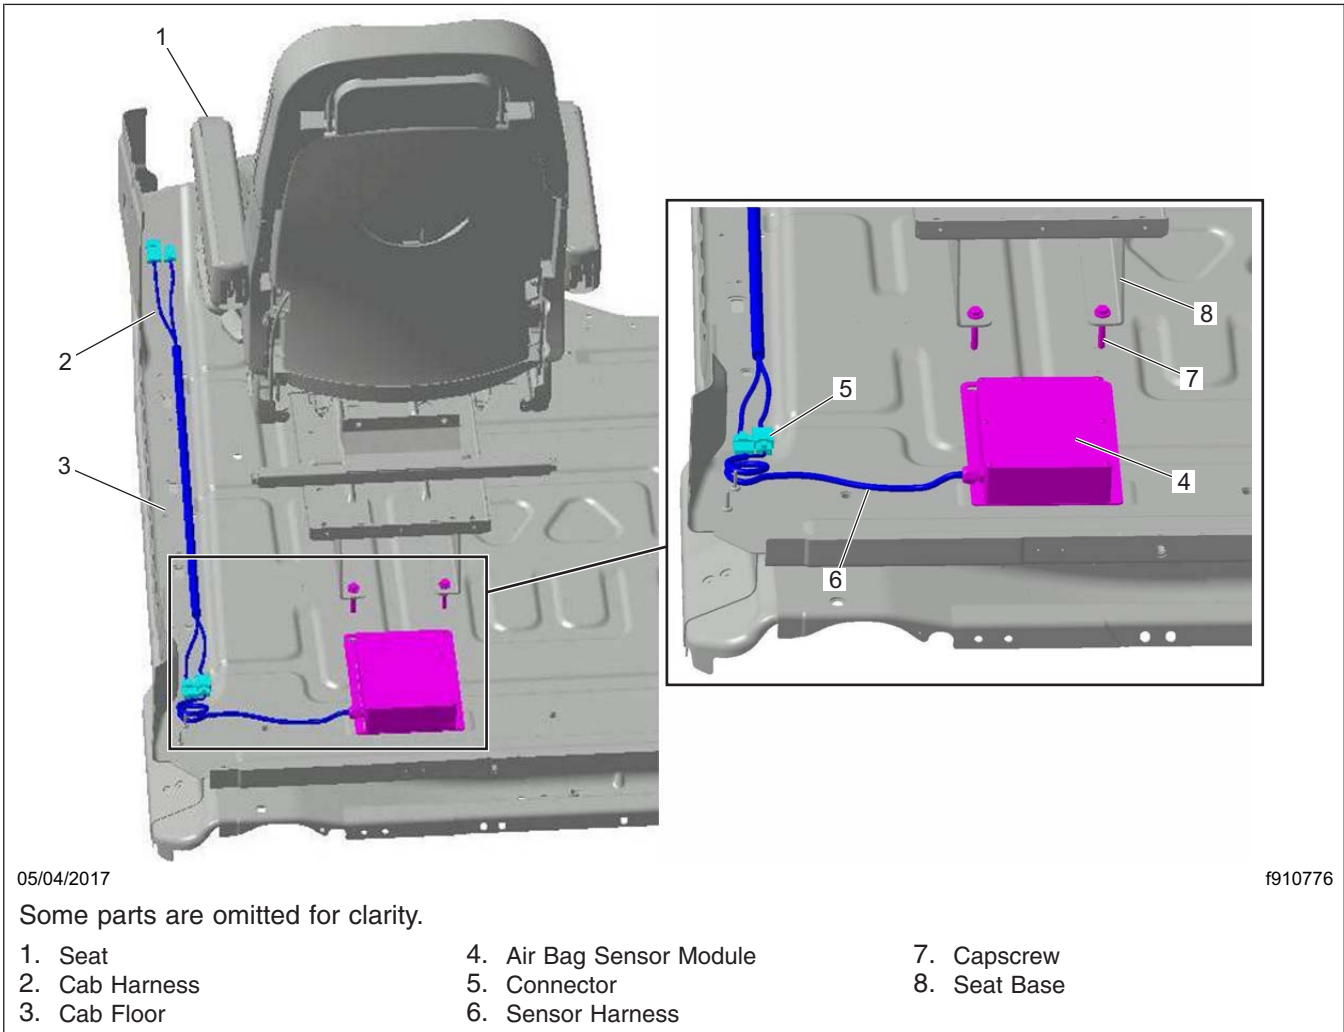

Fig. 3, Air Bag Sensor Removal
14. Remove the capscrews from the air bag sensor, and remove the seat bracket. See Fig. 3.